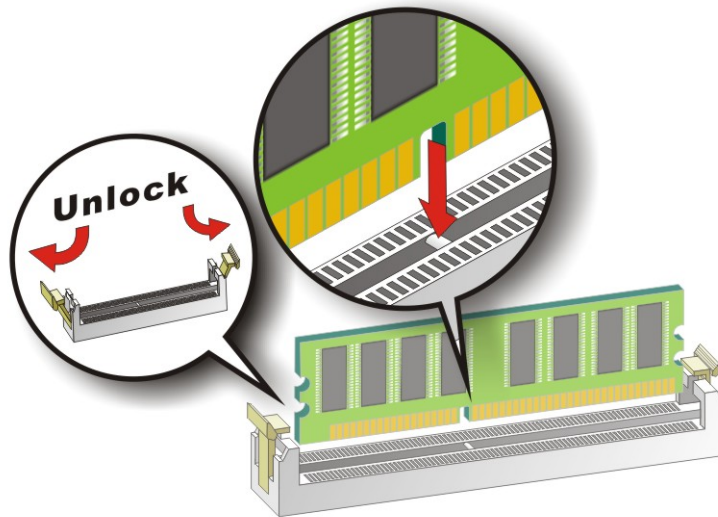

Figure 4-6: DIMM Installation
To install a DIMM, please follow the steps below and refer to Figure 4-6.
- Step 1: Open the DIMM socket handles.** Open the two handles outwards as far as they can. See Figure 4-6.
- Step 2: Align the DIMM with the socket.** Align the DIMM so the notch on the memory lines up with the notch on the memory socket. See Figure 4-6.
- Step 3: Insert the DIMM.** Once aligned, press down until the DIMM is properly seated. Clip the two handles into place. See Figure 4-6.